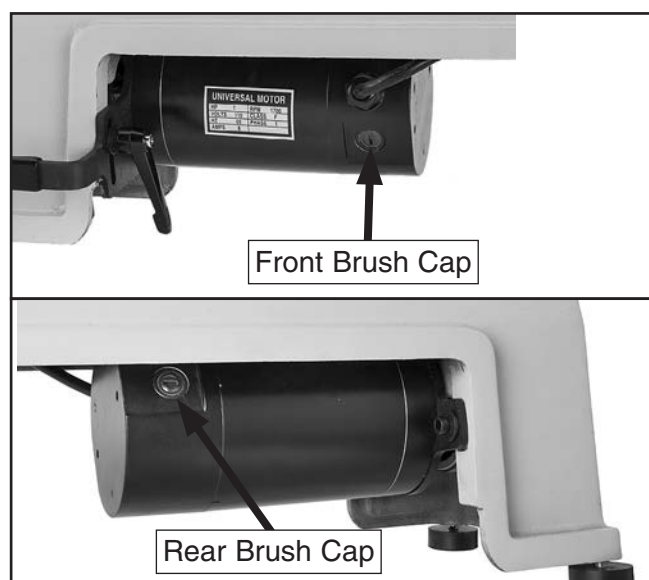

Figure 47. Location of front and rear brush caps.
2. Use dime to unscrew and remove brush caps on front and rear of motor (see **Figure 47**).